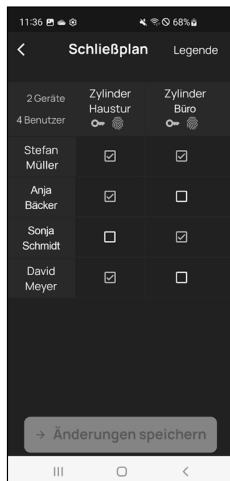

Fig. 3
**! For info:** This table is of interest when you have several cylinders and users. This allows you to clearly determine in one step who is allowed to access which cylinder. Fig. 3 provides an example of what a completed table with corresponding cylinders and users might look like.